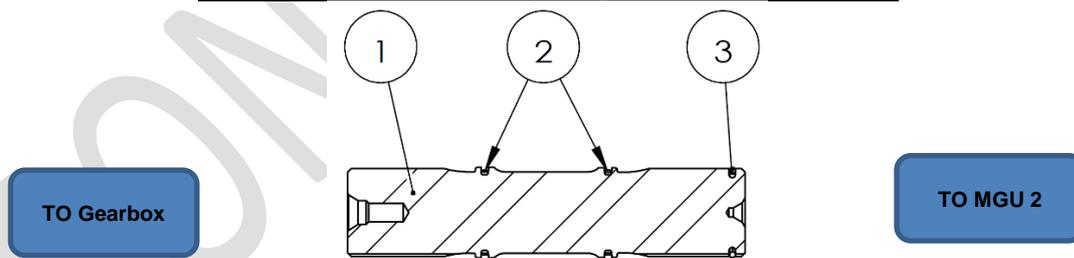
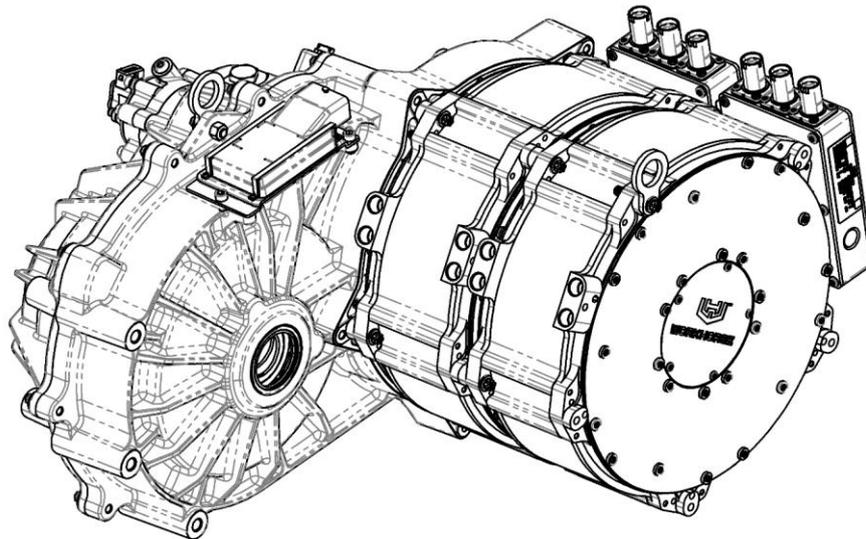

Figure 18: Connecting shaft installation with O-rings and Snap Ring
Figure 20: Motor installed on Gearbox
- Firstly install snap ring (6) and O-rings (5) on connecting shaft.
- Insert connecting shaft to MGU 1 in the orientation Figure 18
- Ensure the O-rings (3) had been installed in the groove on the adapter of the gearbox to achieve the requirements specified on the customer outline drawing.
- The final configuration is shown in figure 20